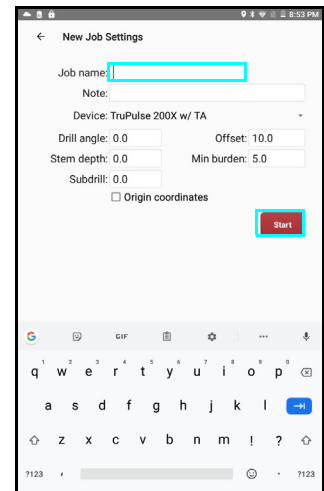

Figure 11
2. Enter the Job Name (Figure 11):